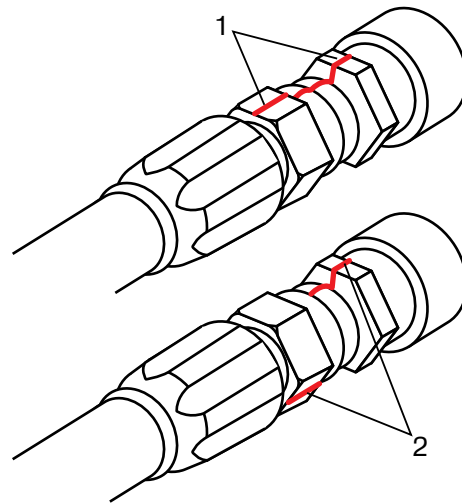

Figure 2-5. Flats Method Tightening
5. Mark a line across the coupling nut and backup hex for flats method verification of coupling torque (**Figure 2-5. Flats Method Tightening**).
7. If a torque wrench cannot fit into the coupling area or if it is unavailable, flats method may be used to ensure that the coupling is properly tightened, as shown in **Figure 2-5. Flats Method Tightening**.